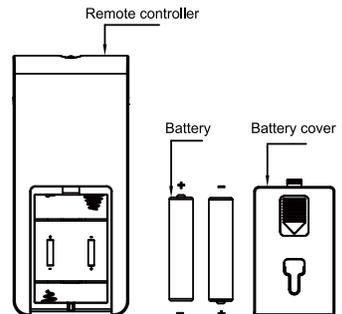

Fig.10 Battery Compartment
- Insert batteries and make sure the batteries are placed as shown in Fig. 10.